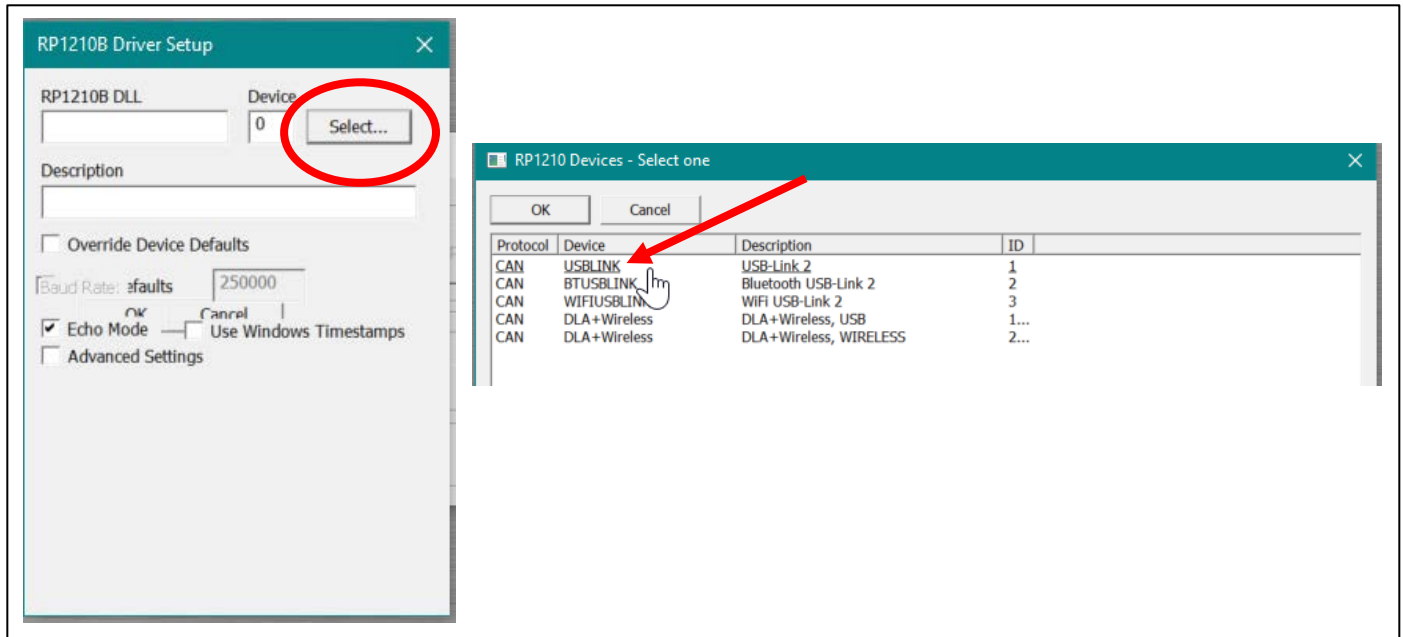

Figure 4: Configuring the Driver
- Click *Select* in the RP1210B Setup dialog box, then choose the device from the list that matches your tool. See **Figure 4**.